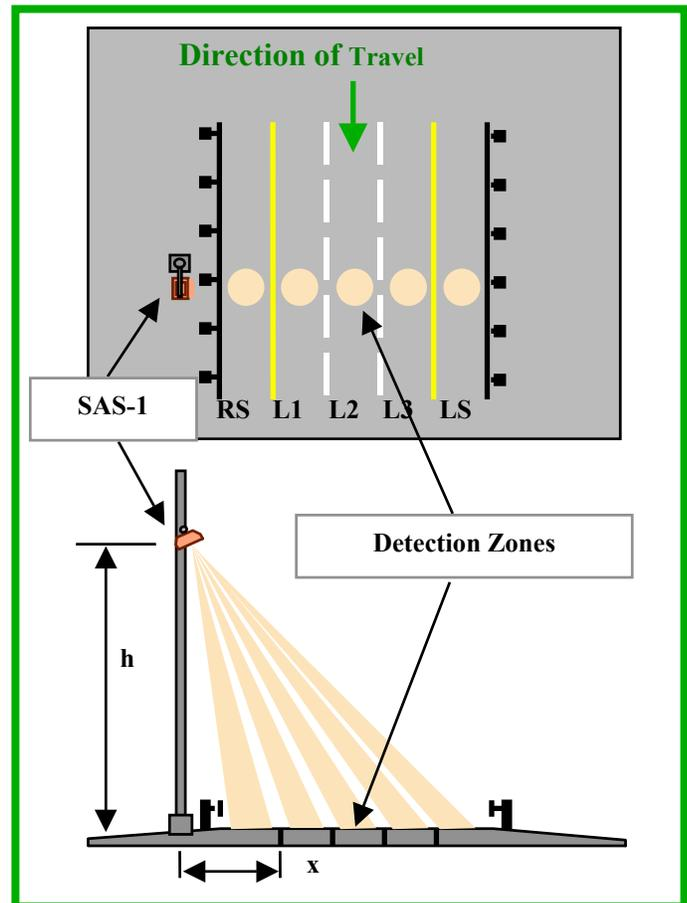

Figure 4 Side Mounting for Multilane Monitoring
The SAS-1 can monitor up to five (5) lanes. A side mount installation geometry for monitoring 3 lanes and 2 shoulders is shown in Figure 4. The number of detection zones or lanes is driven by constraints for typical side mount geometries (resolution and occlusion of the far lanes). The ability of SAS-1 to separate or resolve lanes far from the sensor is highly dependent on the installation geometry. When the SAS-1 is installed according to SmarTek Systems recommendations, vehicle detection performance is excellent for all lanes monitored. If SAS-1 is installed at a height lower than recommended or further from the active lanes than recommended, vehicle detection performance for the lanes furthest from the sensor will be degraded. There is no loss of detection performance due to variation in weather, environmental conditions, or visibility conditions.